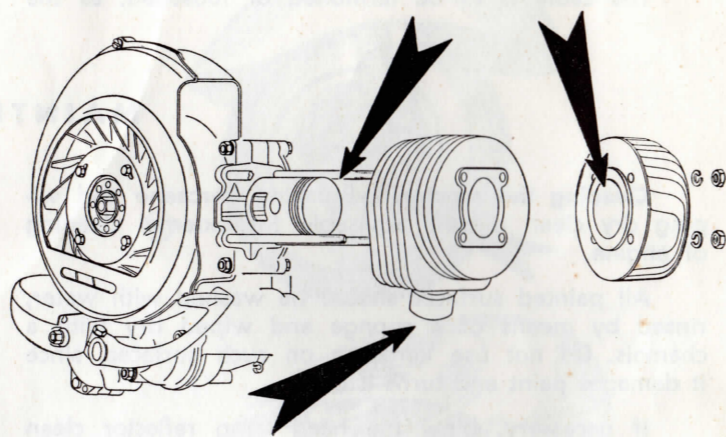

Fig. 20 - Cleaning the cylinder head, cylinder and piston
- (5) - Grease the felt which lubricates the cam of fly-wheel magneto.
- (6) - Clean the two lubricators on front wheel hub and refill them by means of a grease gun.
(8) - Clean the muffler and decarbonize the engine as explained hereunder. Remove the muffler, the cooling hood, the cylinder head and the cylinder (see Fig. 20). Decarbonize the piston crown and the cylinder ports from all carbon deposits. Decarbonize the inner side of the cylinder head. Carefully clear the cylinder carbon deposits. Heat the exhaust pipe of the muffler and clean it either by scraping internally with a hooked wire or blowing air through from the other orifice; in both cases the muffler should be held so that the exhaust pipe is turned downwards.